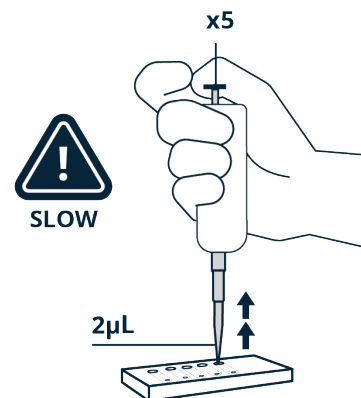

Figure 4. Slowly aspirate 2µL from each outlet port.
8. Use a micropipette to carefully remove 2µL of the sorted sperm-containing solution from each of the outlet ports (Figure 4).